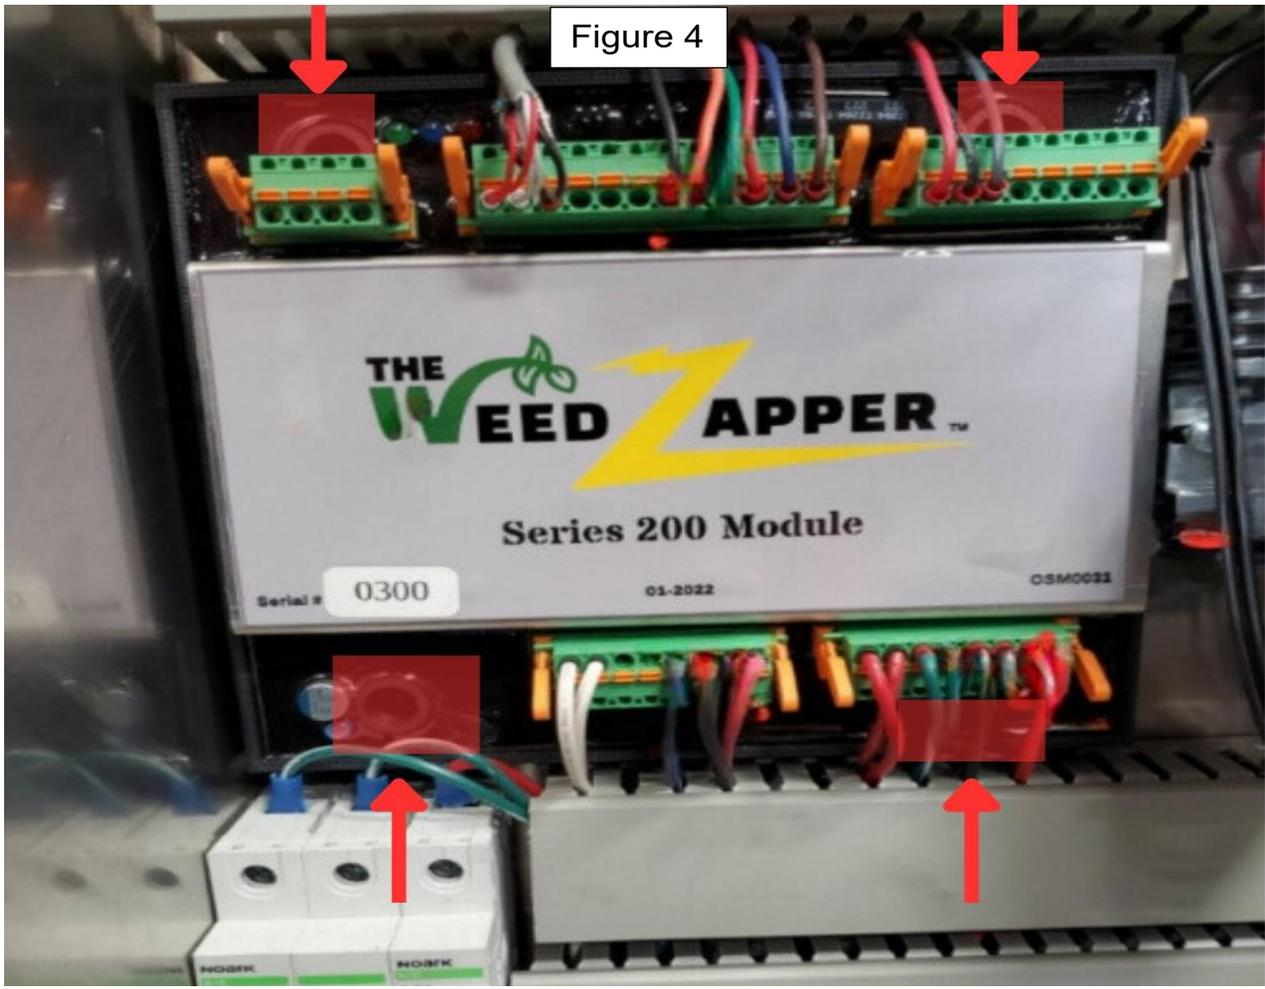

Figure 5
8. Install the plugs in the same location as they were on the old module. The new module has two more available sockets on the top, but they are not used. (see Figure 5)